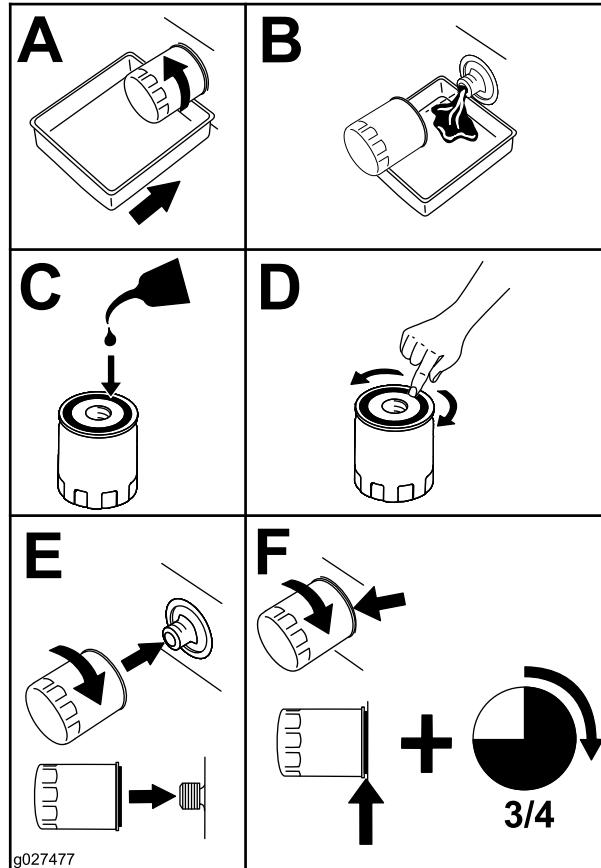

Figure 49
- Change the engine-oil filter (Figure 49).